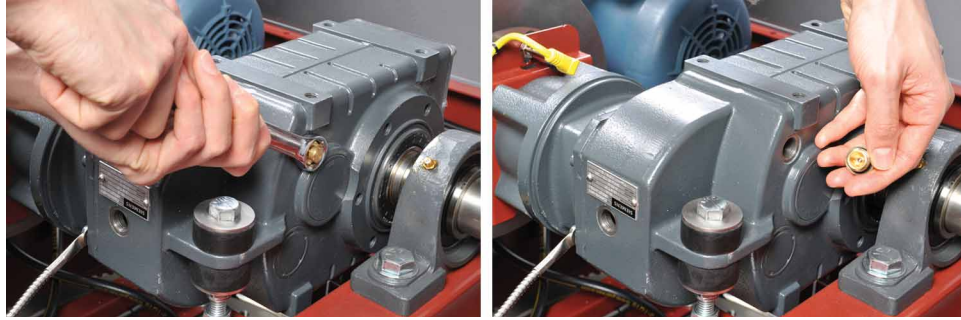

Figure 2-53. Opening the pressure breather valve.
31. Remove the (brass) pressure breather valve using the 17 mm wrench (Figure 2-53) to facilitate draining and pour new oil later.